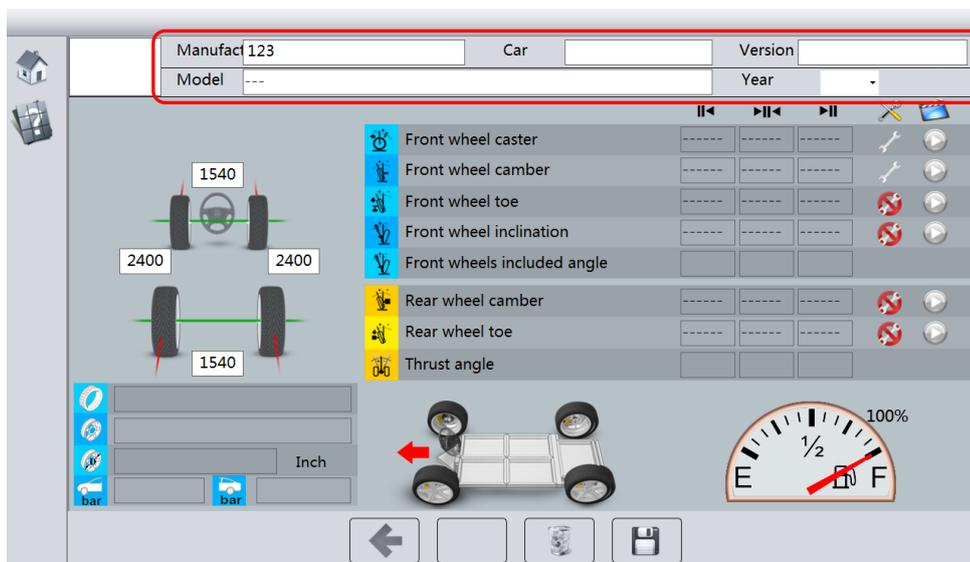

Fig.15
1. Enter data addition screen. Input the model, year and others and then the data as shown in Fig.15.